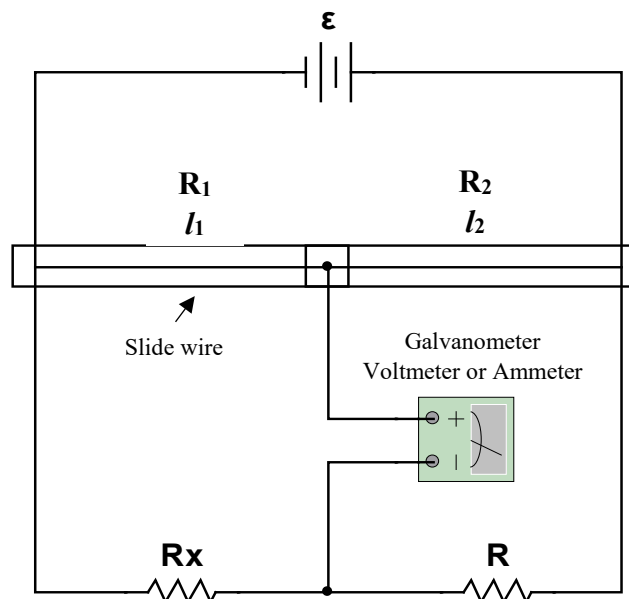

Figure 3: Set-up for DC Wheatstone bridge measurements.
1. Connect the circuit as shown in Figure 3 using a slide wire.